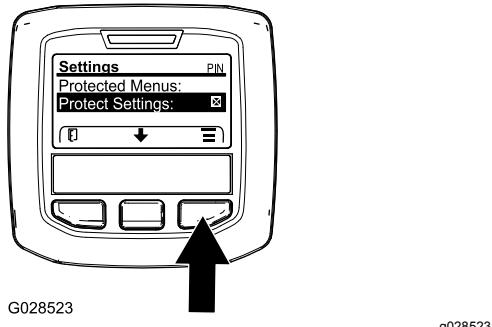

Figure 25
- Access the protected menu and unlock the protected settings submenu (Figure 25); refer to Accessing Protected Menus \(page 17\).